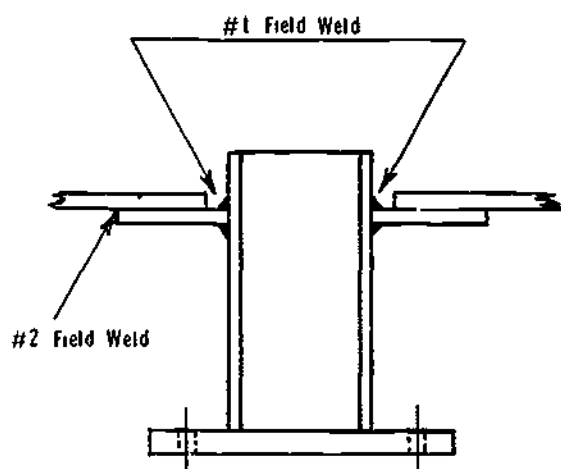

Figure 12-33. Tank Shell Fitting with Welded Reinforcing
- Step 5. Allow the inside weld to cool; then tack and weld the pad to the shell outside (Figure 12-33)